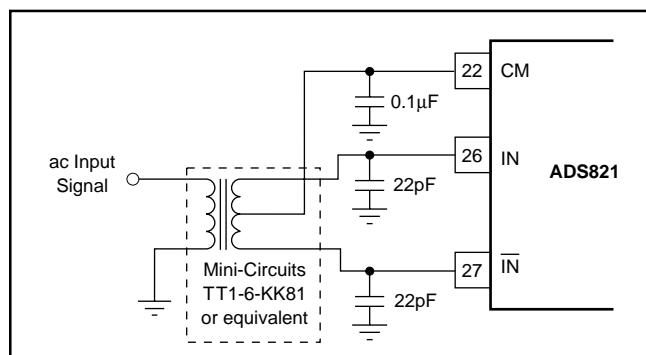

FIGURE 5. AC-Coupled Single-Ended to Differential Drive Circuit Using a Transformer.
The ADS821 has a differential input with a common-mode of +2.25V. For ac-coupled applications, the simplest way to create this differential input is to drive the primary winding of a transformer with a single-ended input. A differential output is created on the secondary if the center tap is tied to the common-mode voltage (CM) of +2.25V, as per Figure 5. This transformer-coupled input arrangement provides good high frequency ac performance. It is important to select a transformer that gives low distortion and does not exhibit core saturation at full-scale voltage levels. Since the transformer does not appreciably load the ladder, there is no need to buffer the common-mode (CM) output in this instance. In general, it is advisable to keep the current draw from the CM output pin below 0.5μA to avoid nonlinearity in the internal reference ladder. A FET input operational amplifier such as the OPA130 can provide a buffered reference for driving external circuitry. The analog IN and IN inputs should be bypassed with 22pF capacitors to minimize track-and-hold glitches and to improve high input frequency performance.